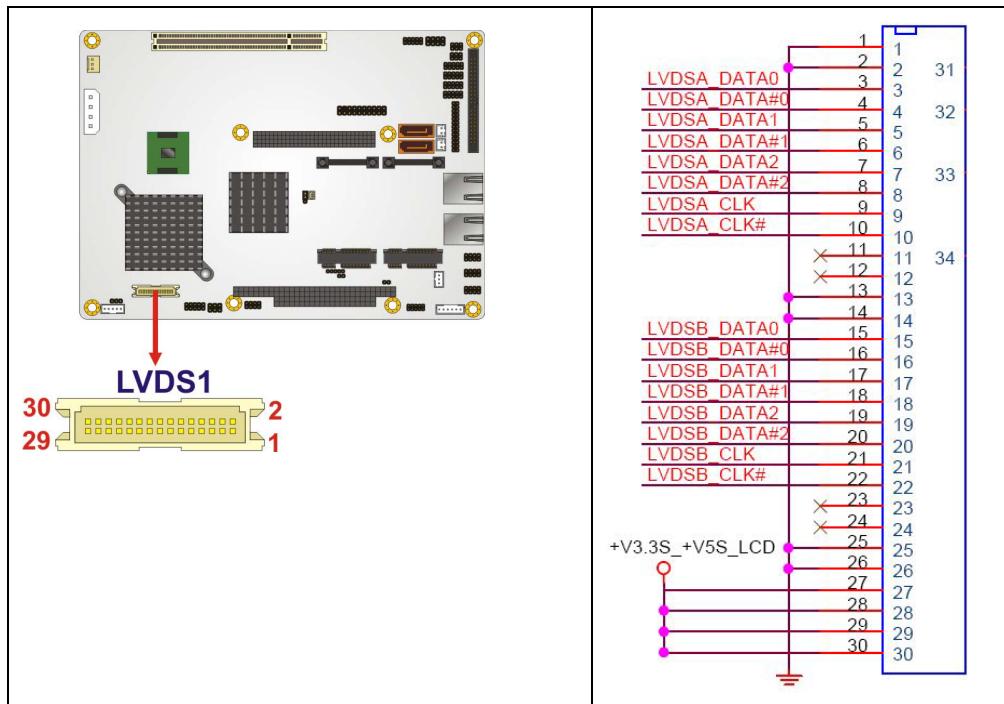

Figure 4-15: LVDS LCD Connector Pinout Location
- CN Location:** See Figure 4-15